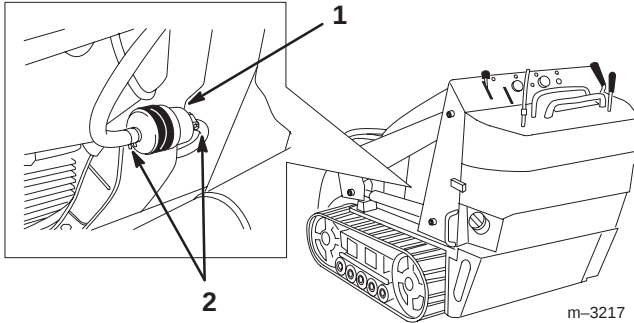

Figure 44
4. Clamp the fuel lines on both sides of the fuel filter (Fig. 44).
5. Squeeze the ends of the hose clamps together and slide them away from the filter (Fig. 44).